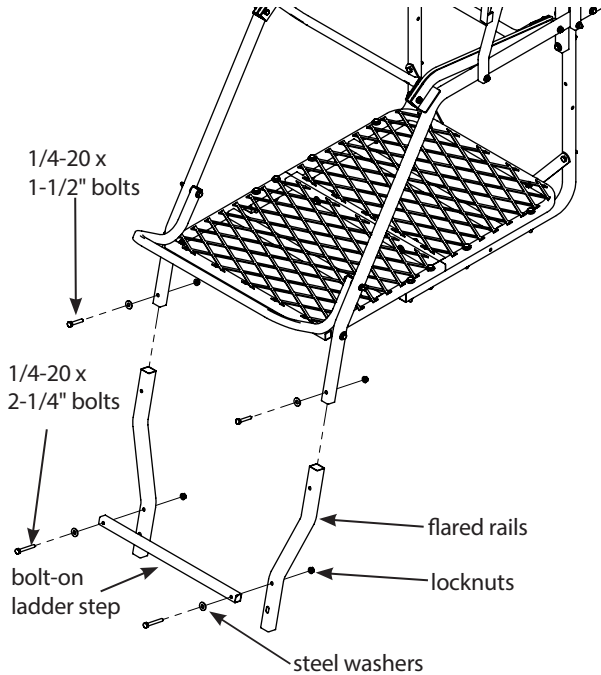

Figure 17
11. Insert the two side rails into the flared rails (410054). Secure using (2) provided 1/4-20 x 1-1/2" bolts, locknuts and steel washers. **SEE FIGURE 17.**
12. Attach the bolt-on ladder step (410034) to the front side of flared rails using (2) provided 1/4-20 x 2-1/4" bolts, locknuts and steel washers. **SEE FIGURE 17.**